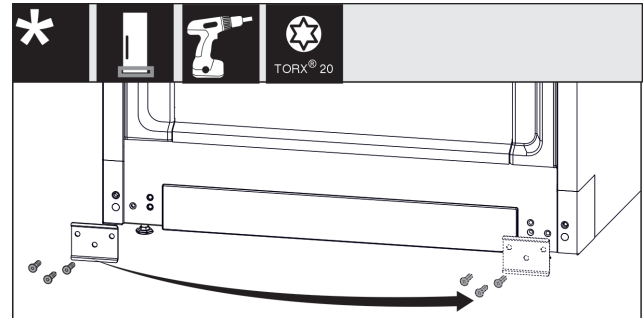

Fig. 16
- ▶ Unscrew the metal plate, move it to the other side and screw it on again. *Fig. 16 (1)*